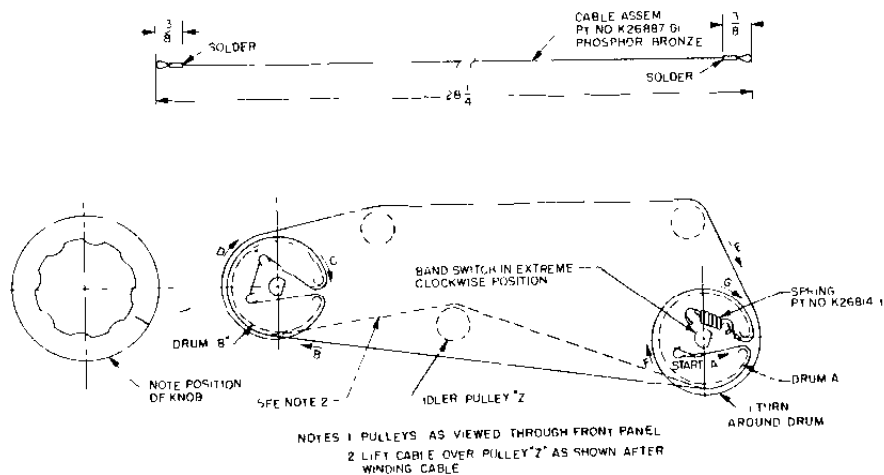

Figure 9. Restraining the Band Selector Mechanism
2. Make up band selector cable as shown in figure 9.
4. Place the loop end of the cable over pin 1 on drum "A". Following the lettered sequence shown in figure 9, string the band selector switching cable and anchor the spring over pin 2 on drum "A".
5. Check drum "B" for proper BAND SELECTOR indexing if index is off. Slip drum "B" through cable until correctly aligned. Clinch the cable under pin 1 to secure the cable positioning on the drum. Lift the cable up over idler pull "Z" as shown in figure 9.